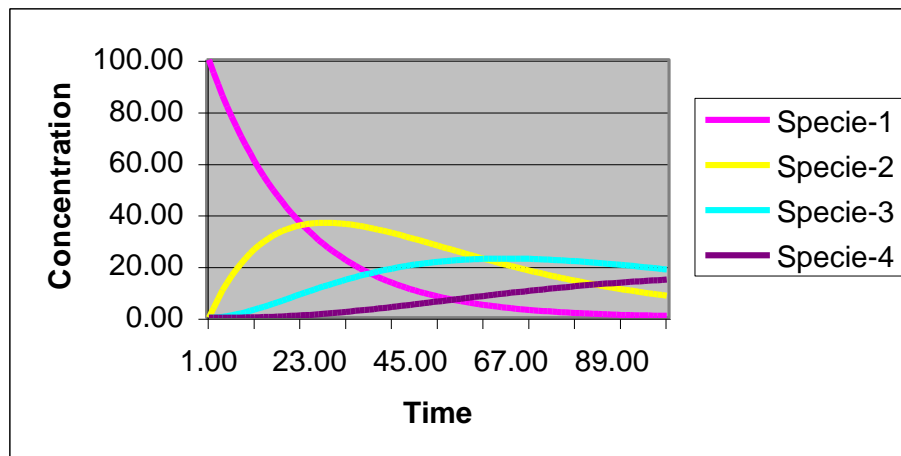

Figure 1 Sample output from the BATCHRXN code for the sample problem
After reading the input, BATCHRXXN will execute and create an output file called “batchrxn.out.” The output file will contain a set of white-space separated ASCII data in column format (written using the Format statement 21E15.5). For this example problem, five columns are output: Time, specie-1 (PCE), specie-2 (TCE), specie-3 (DCE), and specie-4 (VC). Use any spreadsheet software, such as Excel, to plot and analyze this output data. The BATCHRXXN output results for the example problem are shown in Figure 1.